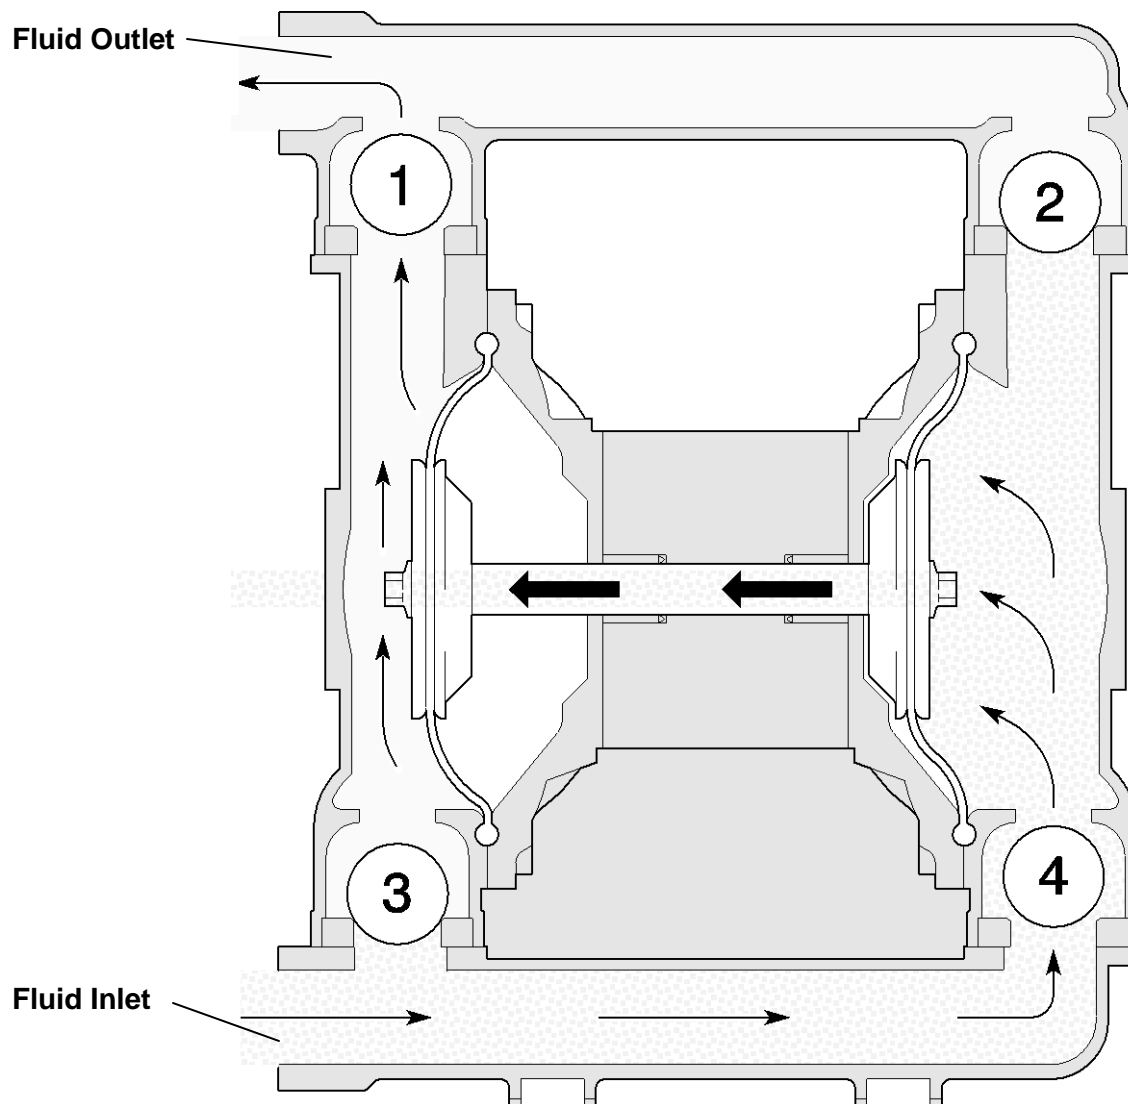

Figure 3 Pumping Fluids: movement to the left
At the end of the pump stroke the air valve switches and compressed air will flow into the left air chamber, causing the left diaphragm to flex. The inlet check valve (3) of the left fluid housing closes, the outlet valve (1) opens, and the fluid is pumped through the outlet manifold. The pump shaft moves left creating a vacuum in the right fluid housing. The right outlet valve (2) closes, the right inlet check valve (4) opens, and the fluid flows into the right fluid housing. See Figure 3.